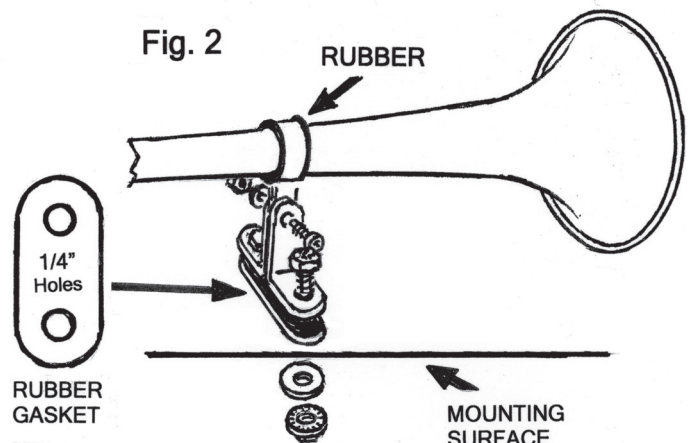

Fig. 2
5. Position the front trumpet support bracket around the narrow part of the trumpet. **IMPORTANT:** Provided in the kit is a soft rubber strip that is placed into the ring of the support bracket to provide a tight fit and prevent vibration. Push the bracket forward until it is tight. Use the bracket as a template, mark hole locations and drill to size. See Fig 2.